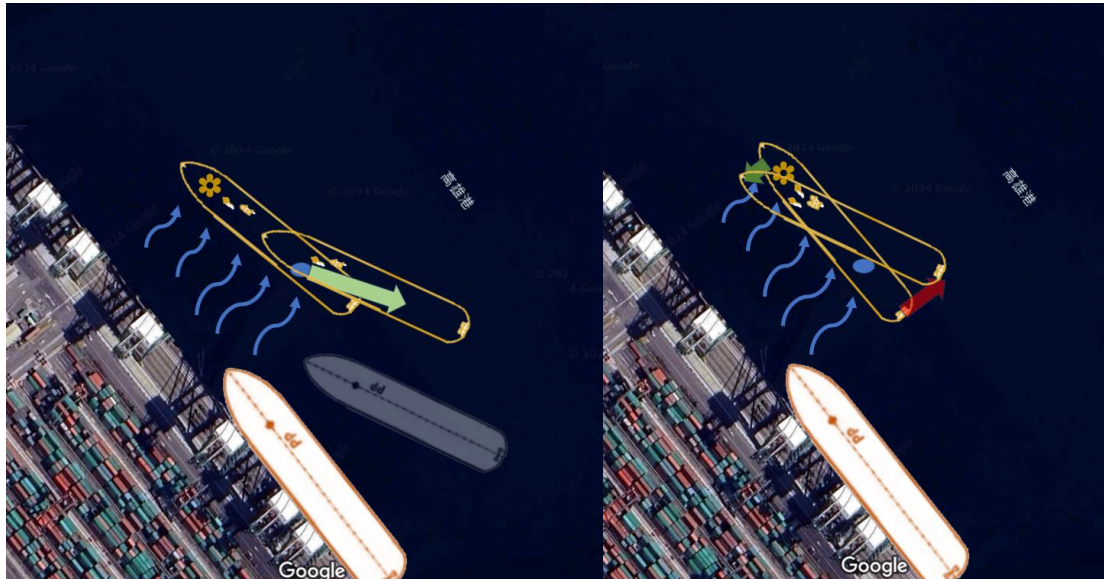

Figure 8 -07 going back to correct astern direction
- Usually mariner use Kick-ahead to adjust position of stern and bow thruster to adjust ship's bow position as figure 8 -06.
In figure 8 -07 when ownship's heading is not correct as 15 degrees to dock line or 301 degrees. Vessel is not at right shape to go astern. The heading may change from 316 degrees to 306 degrees as figure 8 -07. The SOG in ECDIS may still go to 316 degrees as we required but vessel's heading is not correct. We may expect ownship will back off like the drawing in the left. This is the direct impression we had with the use of ECDIS. But, the thing may go wrong from here.
- The correct way is to stop the engine as right drawing in figure 8 - 07.